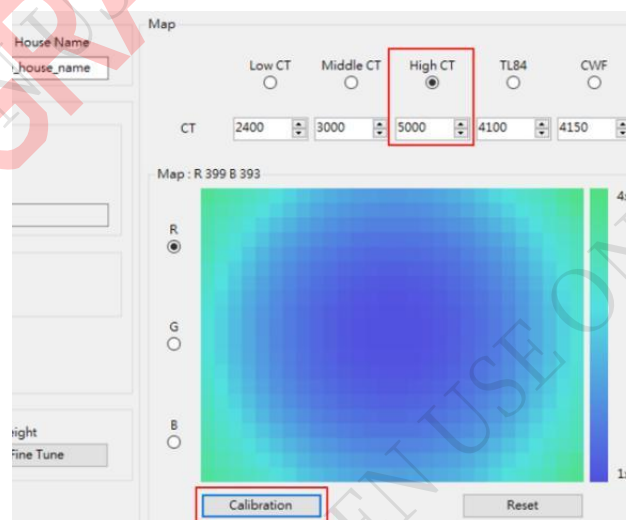

Fig 4.2 Calibrate CT shading table. By fill in the CT value and load the relative raw image from calibration button.
Step 2. Refer to Fig 4.2, input the CT value in Map page and click the calibration button to load the relative raw image to calibrate basic shading table and repeat Step2 to calibrate all CT images from Step1. Be aware that there will be an error message when input image does not meet the criteria.